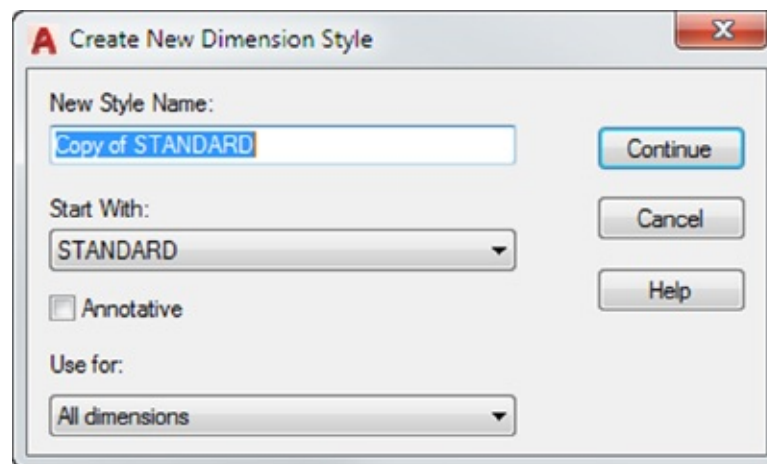

FIGURE 11.4 The Create New Dimension Style dialog box
5. Click New to open the Create New Dimension Style dialog box (see Figure 11.4).